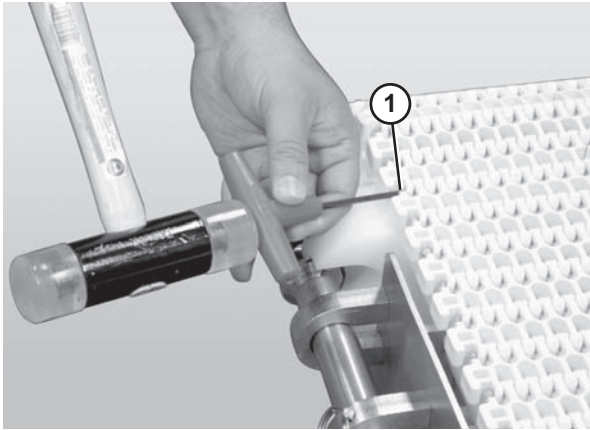

Figure 58
2. Use a punch and hammer to push the belt rod out by striking the rod end opposite the retaining head (Figure 58, item 1).